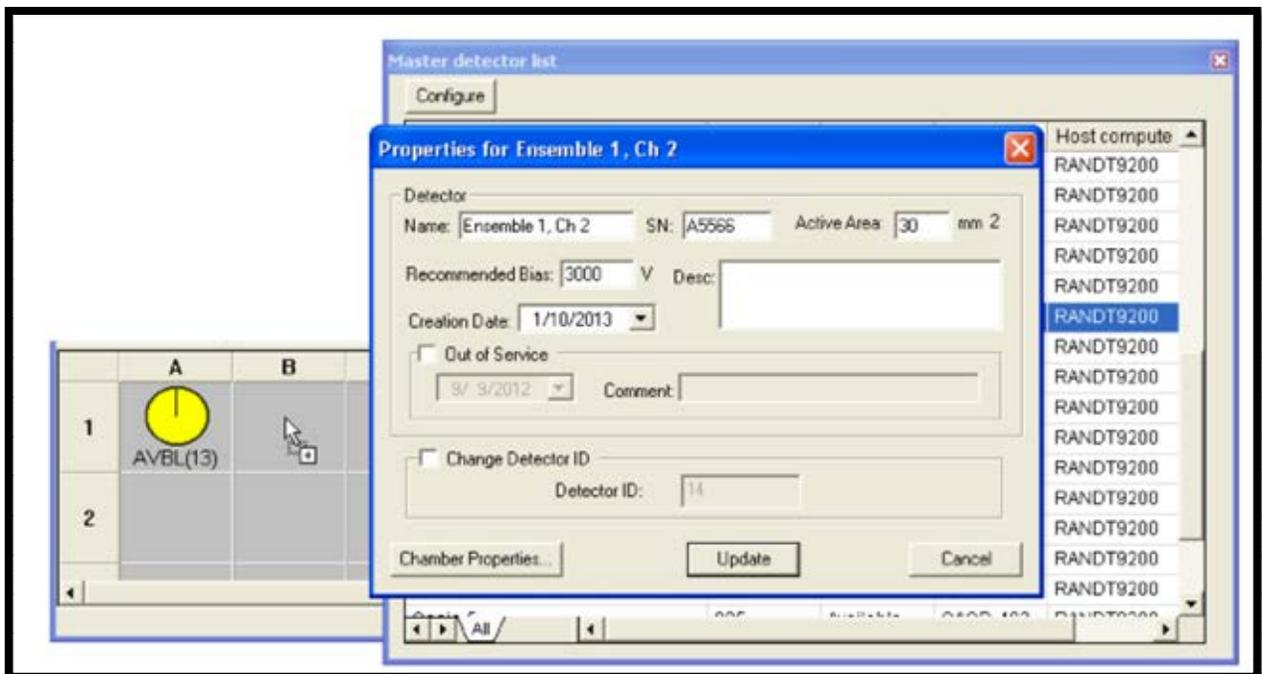

Figure 28. Assigning Detectors to the Grid
- 3) This will open the Properties dialog for the selected detector (Figure 28). Enter the identifying information for the detector and alpha chamber according to their respective data sheets and click **Update**. The dialog will close, and a detector icon will appear in the grid cell. (See the discussion of detector icons in the next section.)